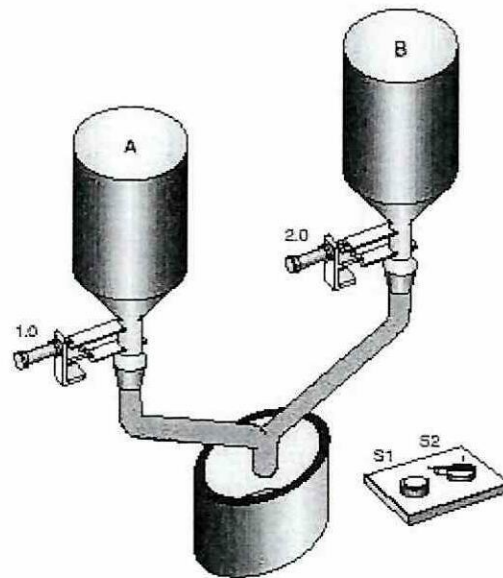
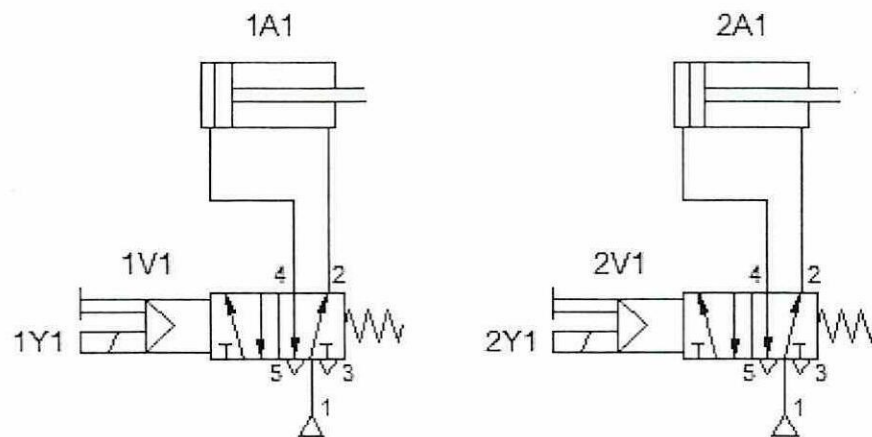

Figure Q1.3
Figure Q1.4
- (e) **Figure Q1.3** illustrates the control system of a bulk material mixing system consisting of a normally open push button (S1) and a normally open selector detent switch (S2). **Figure Q1.4** shows the electro-pneumatic circuit diagram for the system. Once the appropriate silo has been selected using the selector detent switch (S2), pressing the push button (S1) opens the silo accordingly. Both silos use single solenoid valves to control double-acting cylinders respectively. The cylinders are extended in the initial position. Design the control system using a ladder diagram to carry out this process. (6 marks)